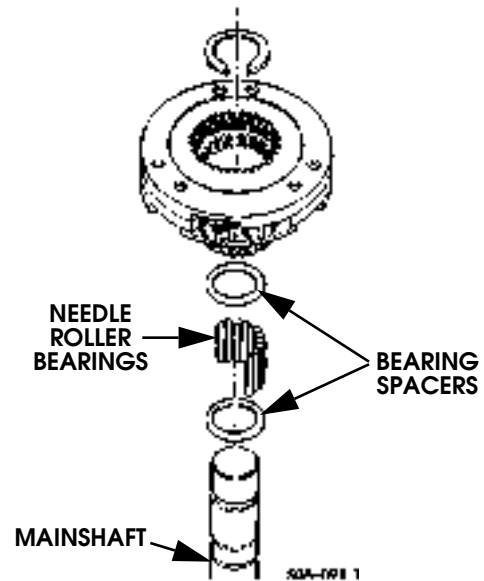

Figure 5-103: Mainshaft Bearing and Spacer Removal
25. Remove mainshaft needle roller bearings and spacers (Figure 5-103).